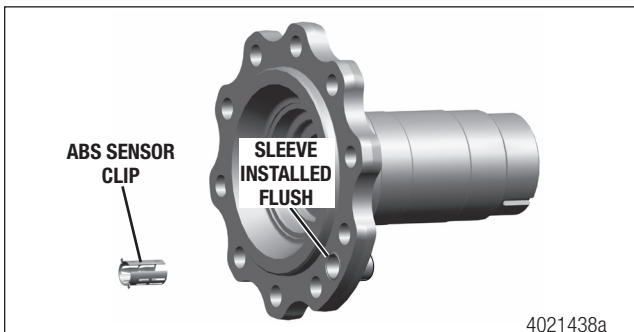

Figure 8.16
1. On units equipped for ABS, if the steel sleeve for holding the ABS sensor clip and ABS sensor has been removed, use a suitable driver to install the sleeve into the back side of the spindle until it is flush with the surface. Figure 8.16.
2. Install the ABS sensor clip into the sleeve. Figure 8.16.